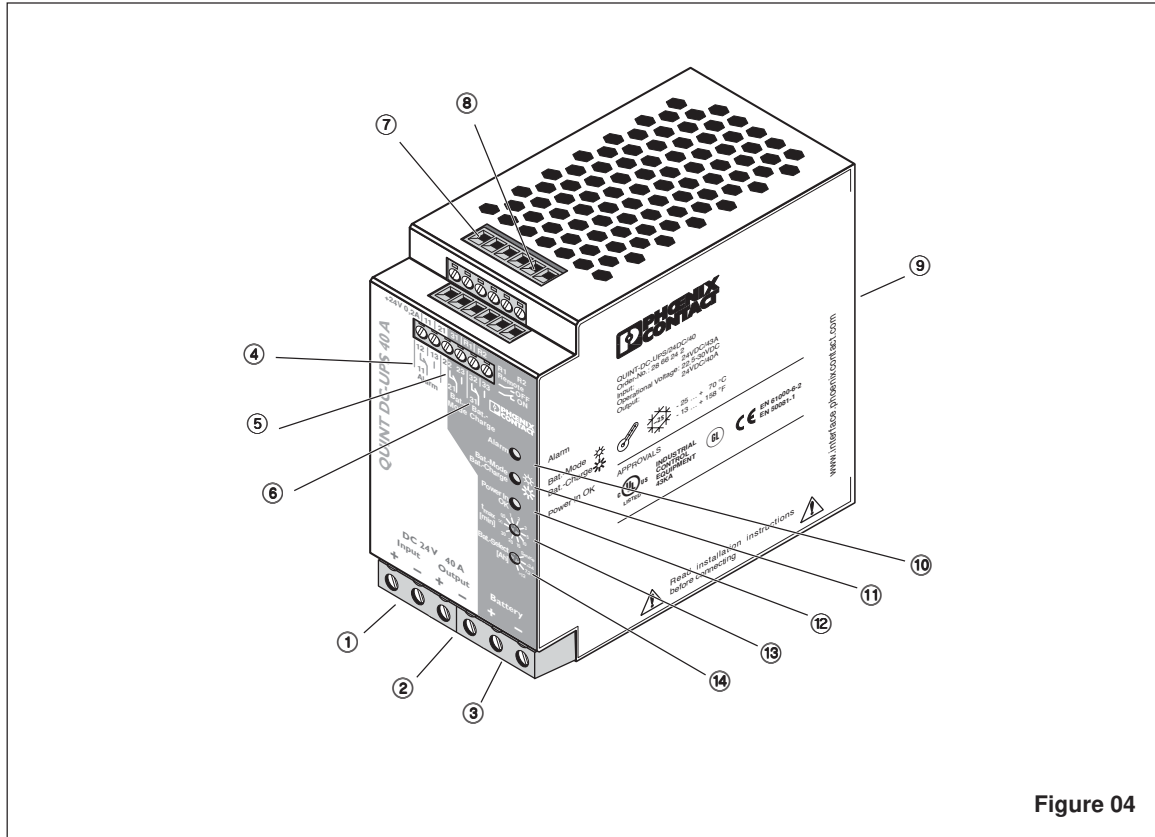

Figure 04
5.5. Input (①, Figure 04, Figure 08)